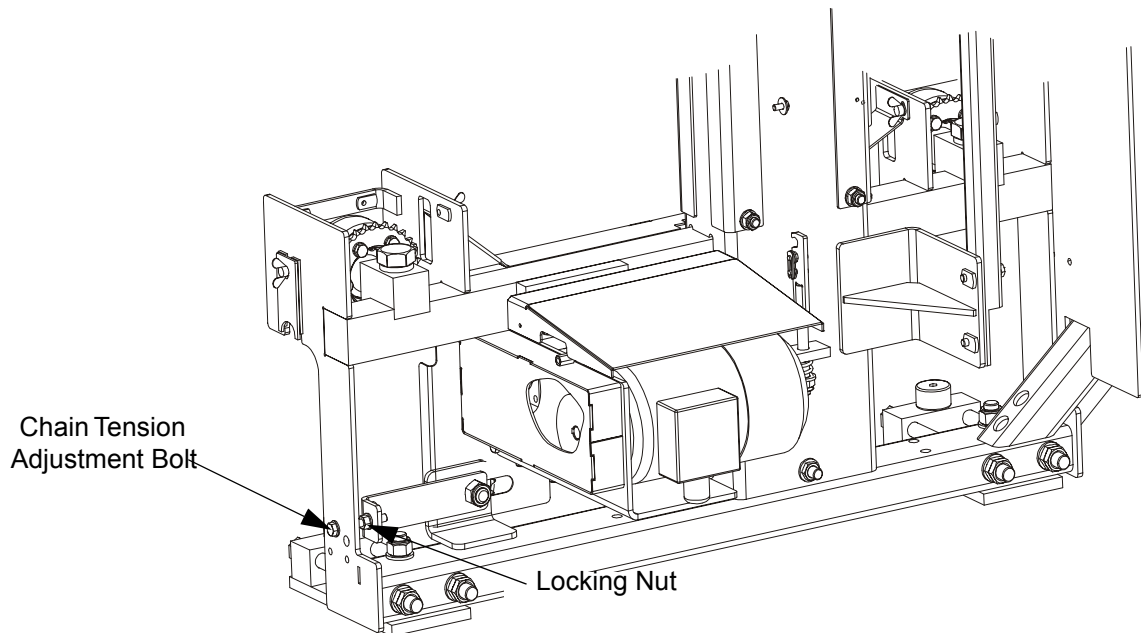

FIG. 4-9
**See Figure 4-9.** Loosen the locking nut. To tighten the chain, turn the adjusting bolt clockwise. To loosen the chain, turn the adjusting bolt counter-clockwise. Tighten the locking nut.